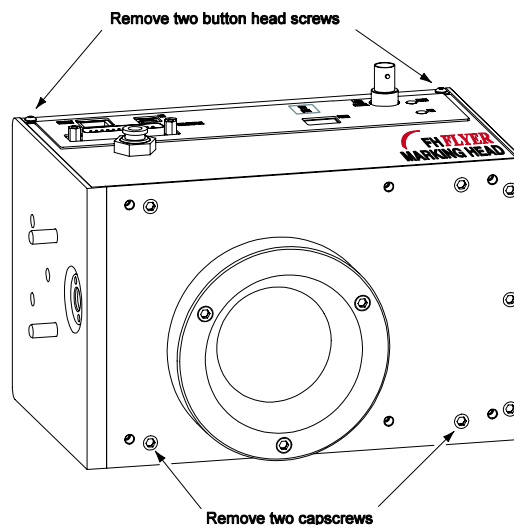

Figure 2 Opening Flyer to enable FASI
- 2 Refer to Figure 2 and withdraw two button head Allen screws and two Allen head capscrews at the locations shown to remove Flyer's upper cover.